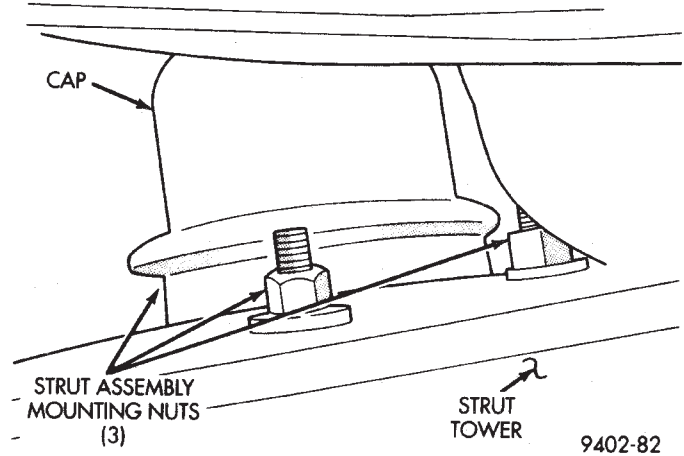

Fig. 14 Strut Assembly Mounting Nuts
NOTE: NOTE: When removing rear strut assembly from vehicle, access for the 3 rear strut assembly to strut tower attaching nuts is through the trunk of the vehicle. See (Fig. 14) for access location of the strut assembly attaching nuts in trunk of vehicle.
(13) Remove the 3 strut assembly to rear strut tower mounting nuts (Fig. 14) and remove strut assembly from vehicle.
(1) Position strut assembly back in vehicle with the 3 studs on the strut mount through holes in strut tower. Install the 3 strut mount to body attaching nuts onto mount studs (Fig. 14). Using a crow foot and 3/8 in. torque wrench, tighten the 3 strut mount attaching nuts to a torque of 28 N·m (20 ft. lbs).